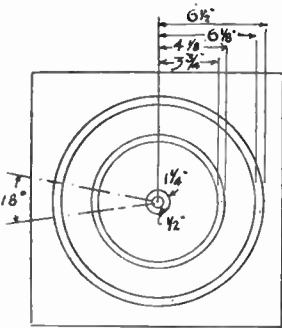
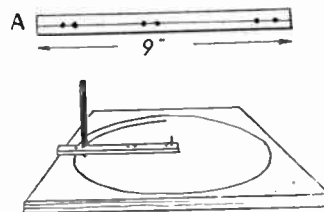

Fig. 2—Designing the board
Fig. 3—Home-made marker
The design of the board should be marked out on paper, to be afterwards glued to the board. Choose a sheet of smooth stout paper for this, and on it pencil the size of the board. Pin the paper to a flat board, and with the aid of an ink compass and indian ink, mark out the circles to the diameters given in Fig. 2. Those readers who do not possess an ink compass can do this job with a home-made gadget, shown at (A) in Fig. 3.
This is a length of wood, say, 1in. wide and 1/2in. thick, with a small hole near one end for a centre, and from it other holes at the radii given in Fig. 2. These latter holes should be just large
enough to admit the end of one of those ink pencils so popular just now. In use, the gadget is secured to the centre of the paper with a thin nail or screw, so that it is free enough to be swung round. The circles are easily described by putting the ink pencil in the holes, one at a time, of course, and then swinging the gadget full circle, as in the sketch, Fig. 3.